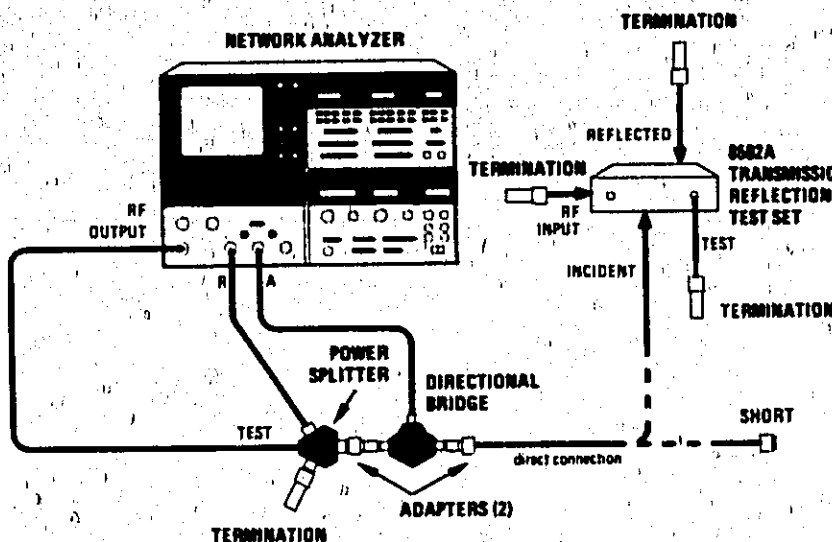

Figure 16. INCIDENT, REFLECTED, and RF INPUT Port Return Loss Test Setups
c. For INCIDENT port return loss measurements connect equipment as shown in Figure 16, Configuration A with no connection to mainline TEST port of Directional Coupler.
- (2) Read worst-case Return Loss from 8505A Signal Processor Channel 1 digital display. The indications should be ≥ 25 dB below the zero dB reference level for the frequency range 100 to 1000 MHz.
- j. To determine the INCIDENT port Return Loss for the frequency range 2 to 1000 MHz connect equipment as shown in Figure 16, Configuration B with LOAD port on Directional Bridge shorted. Set 8505A Frequency Control RANGE MHz switch to .5 - 130. Adjust FREQUENCY MHz START control to 002.0 and FREQUENCY MHz STOP control to 100.0.
- (1) On 8505A CRT display, push REF LINE POSN pushbutton and adjust CH1 control until trace is positioned to center of screen. Press REF LINE POSN pushbutton again to return system to normal operation.
- (2) Set 8505A Frequency Control MARKERS switch to 1 and adjust MARKER 1 control to center graticule.
- (3) On 8505A Signal Processor Channel 1 press DISPLAY MKR and ZRO pushbuttons to place MARKER 1 on reference line and to zero digital readout.
- n. For REFLECTED port Return Loss measurements repeat steps a — m, except directly connect the REFLECTED port to the Dual Directional Coupler (Figure 16, Configuration A) or the Directional Bridge (Figure 16, Configuration B) with RF INPUT, INCIDENT, and TEST ports terminated in 50 ohms. The worst-case Return Loss measurements should be:
- o. For RF INPUT port Return Loss measurements repeat steps a — m, except directly connect the RF INPUT port to the Dual Directional Coupler (Figure 16, Configuration A) or the Directional Bridge (Figure 16, Configuration B) with REFLECTED, INCIDENT, and TEST ports terminated in 50 ohms. The worst-case Return Loss measurements should be: